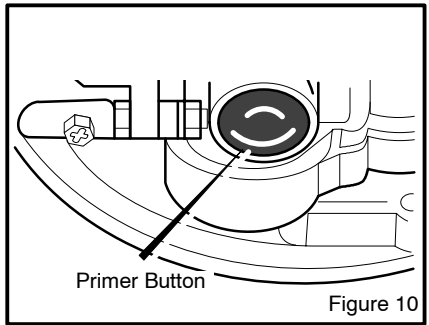

Figure 10
4. The **primer button** is on the side of the engine (Figure 10). Push the **primer button**. Every time you push the **primer button**, wait two seconds. For the number of times required to push the **primer button**, see the engine manufacturer's instructions.